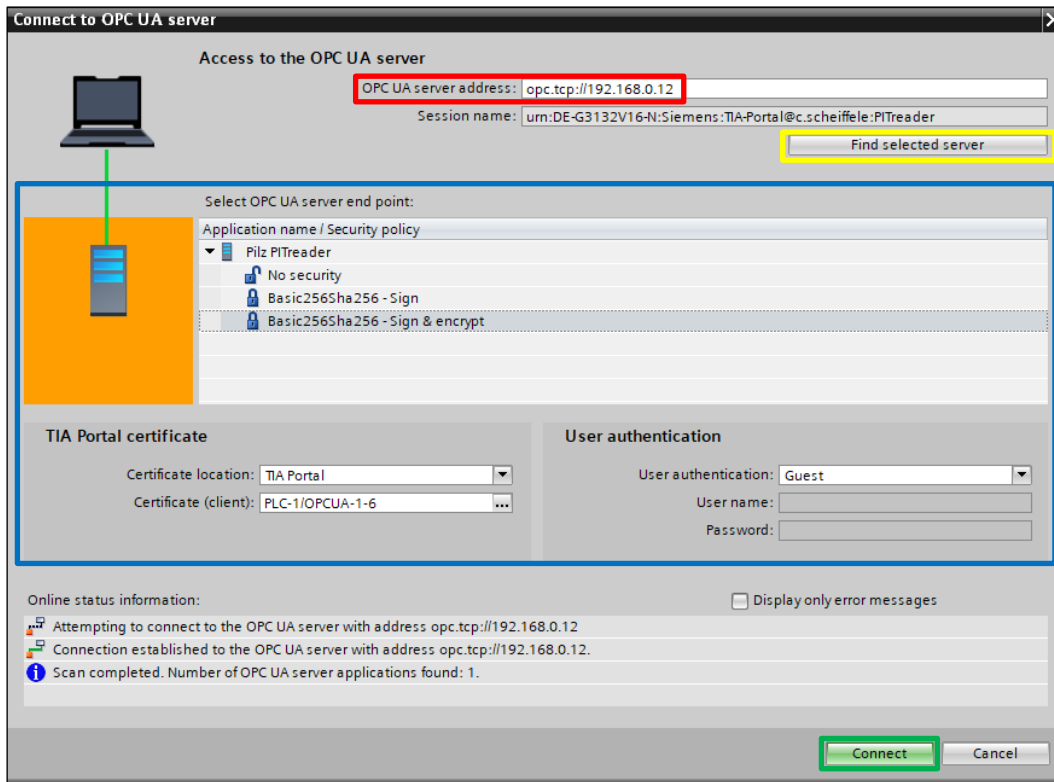

Figure 15: Connection to the OPC UA Server
3. In the window that opens, enter the OPC Server address "opc.tcp://[IP address of the PITreader]" under "OPC UA Server address" (Figure 15 red square).
4. Click on "Find selected Server" (Figure 15 yellow square).
5. Once the OPC UA Server has been found, select the remaining settings as shown in the illustration (Figure 15 blue square). Under "Certificate (Client)", select the certificate generated in Chapter 6.4 OPC UA Client certificate.
6. Click on "Connect" (Figure 15 green square).